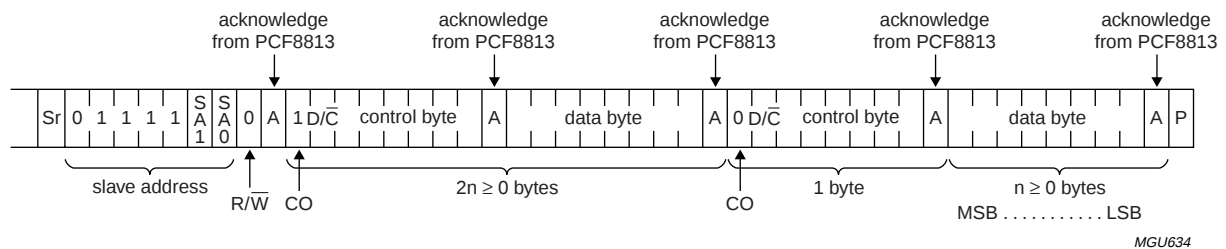

Fig.31 Master transmits in Hs-mode to slave receiver; write mode.
After acknowledgement of a write (W) cycle, one or more command words follow which define the status of the addressed slaves. A command word consists of a control byte, which defines CO and D/ $\bar{C}$, plus a data byte (see Fig.31 and Table 4).